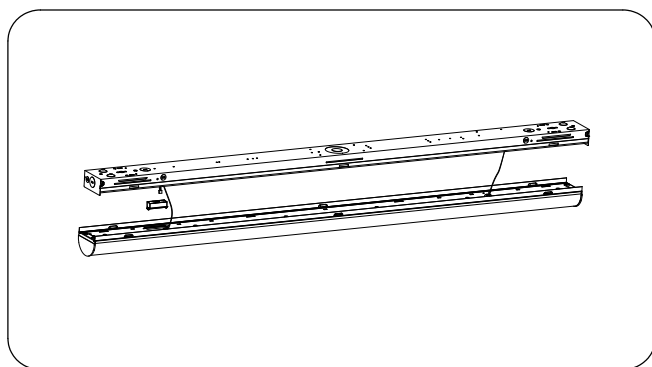

Figure 3
Step 2: Insert the existing 3-core wire plug into the terminal of the approved sensor. (Figure 3)